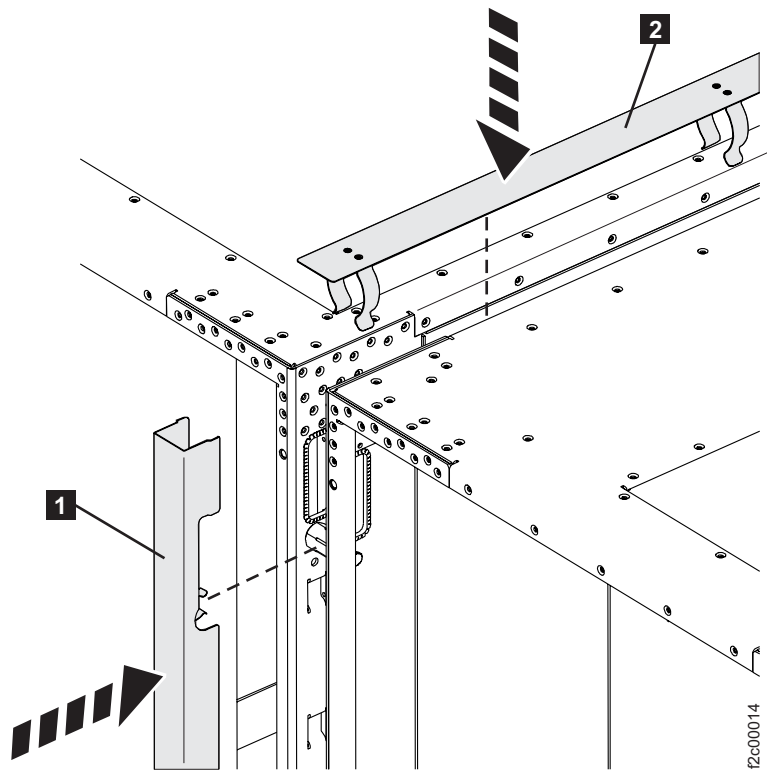

Figure 29. Installing the interrack decorative covers
3. Install each of the two interrack side covers **1** by pushing the cover into place over the interrack spacing studs. Take care not to interfere with any interrack cables. See Figure 29 on page 33.
4. Install the top interrack cover **2** by pressing it down squarely. The spring clips should hold the cover in place. See Figure 29 on page 33.